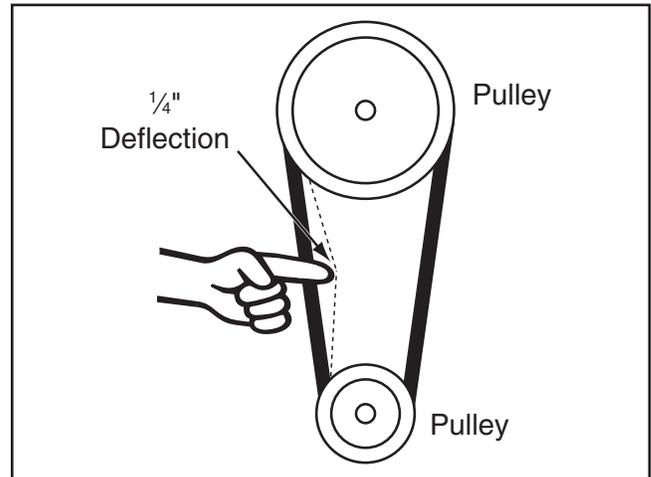

Figure 139. Testing for the correct amount of belt tension.
4. Adjust the motor until there is approximately $\frac{1}{4}$ " deflection when you use moderate pressure between the pulleys, as illustrated in **Figure 139**, then re-tighten the motor mounting bolts.